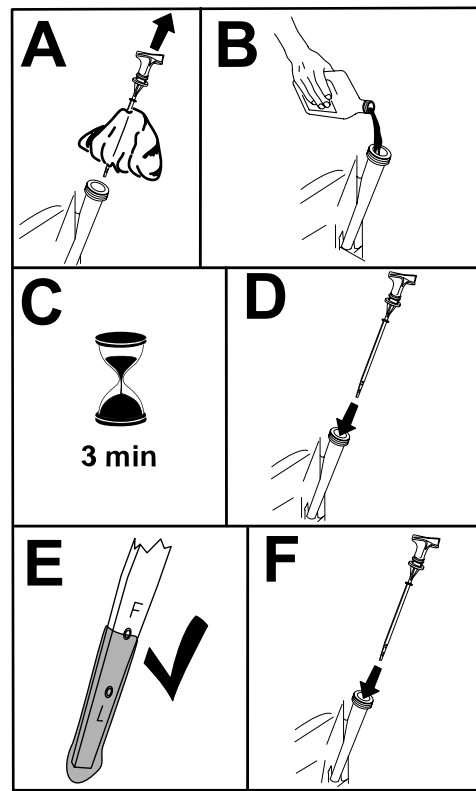

Figure 24
- Slowly pour approximately 80% of the specified oil into the filler tube (Figure 24).